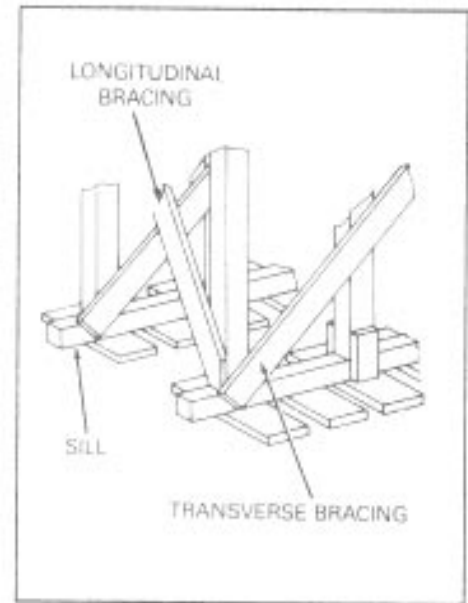

Figure 10-8. Bracing
*Longitudinal bracing* (Figure 10-8) is used to stabilize the bridge centerline.
*Transverse bracing* (Figure 10-8) provides stability at right angles to the centerline. It is sometimes called sway or lateral bracing.